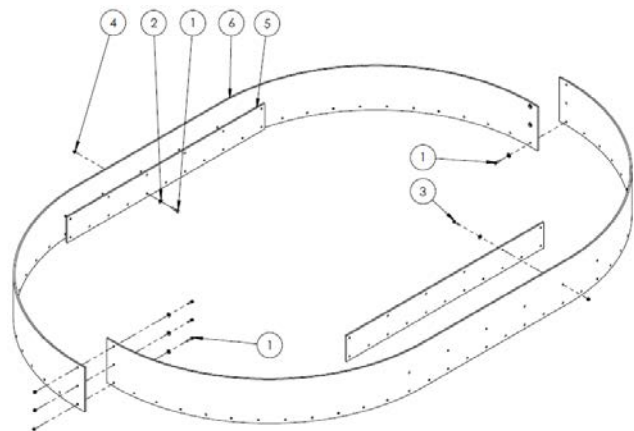

Figure 1: Fasteners for the Tub Extension
- a. Remove all of the bolts, washers and nuts (1,2,3,4) from the 2 straight pieces on the tub extension belting (5), and remove; see *Figure 1*.
- b. Remove all of the remaining bolts, washers and nuts (1,2,4) from the tub extension belting (6), and remove; see *Figure 1*.